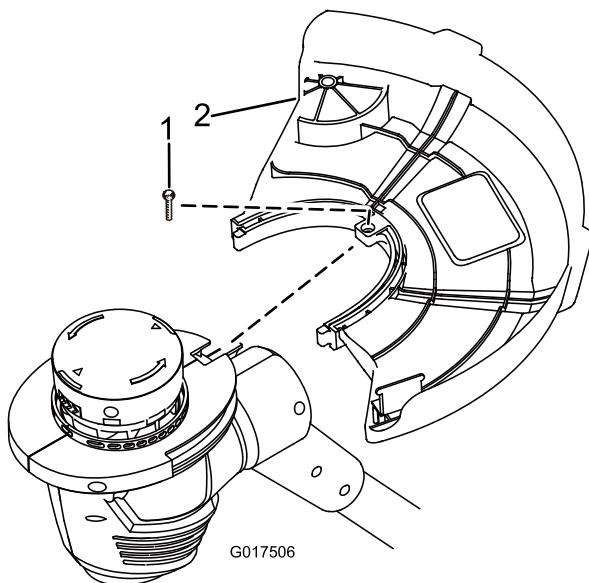

Figure 2
1. Remove the Phillips that is taped to the guard (Figure 2).
2. Slide the guard onto the trimmer base as shown in Figure 2.